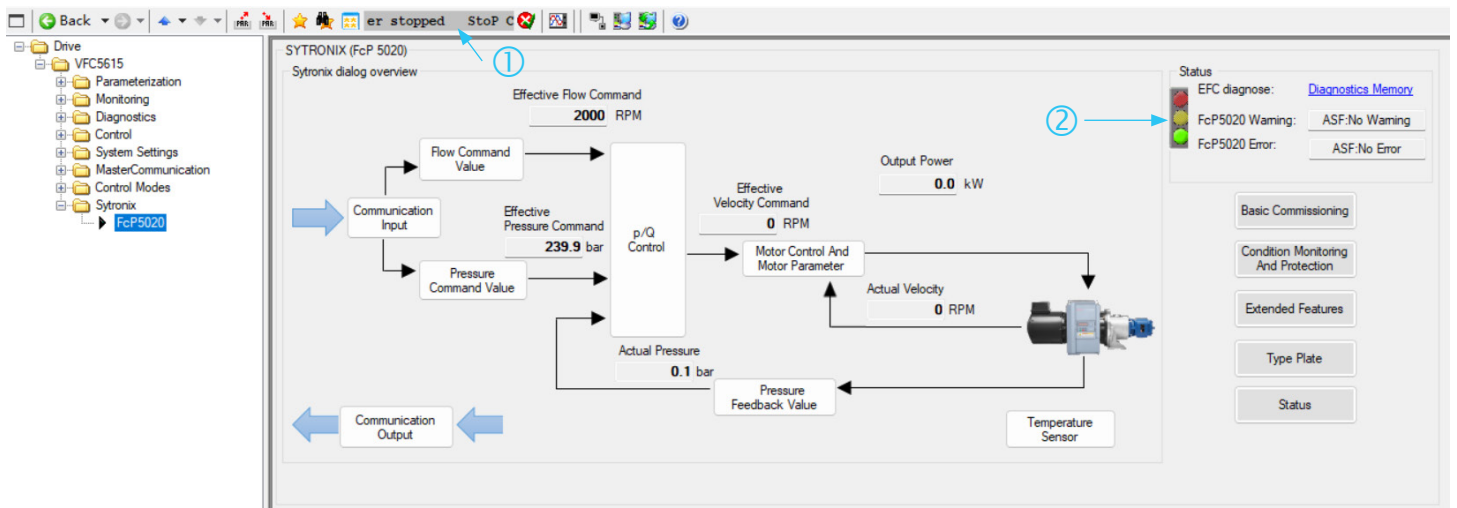

Fig. 80: Diagnosis
2. Check the diagnostic messages (see Fig. 80: Diagnosis).
- Axis status (converter status) ①
- FcP 5020 (ASF) status ②